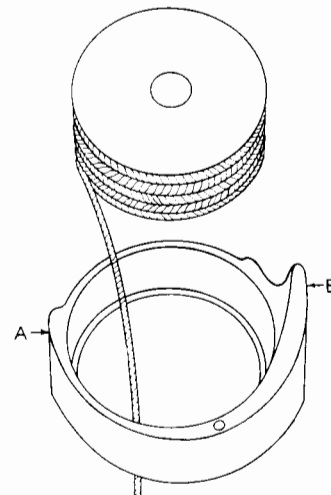

Fig. 310. Dropping the thread through the shuttle.
2. After replenishing the shuttle thread, take the shuttle in the left hand and the bobbin in the right hand. Permit the dangling end of the shuttle thread to drop through the shuttle, as shown in Figure 310.
5. Grasp the shuttle with the left hand, with the forefinger at *A*, and the thumb at *B*, Figure 310.